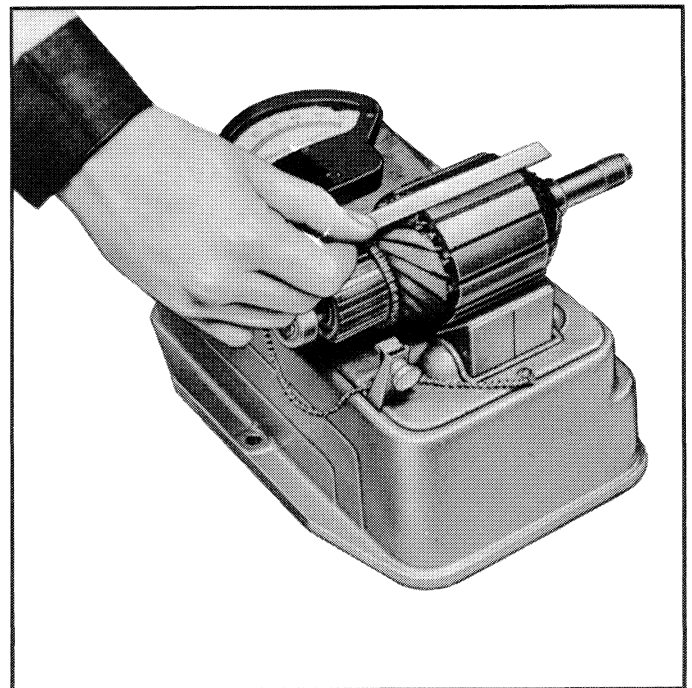

Figure 9—Checking Armature for Short Circuits Using a "Growler" Tester
1. Place the armature in a growler and rotate it slowly while holding a steel strip or hacksaw blade over the steel coils as shown in Figure 9. The steel strip will vibrate over a shorted coil. Replace the armature if a short circuit is found.